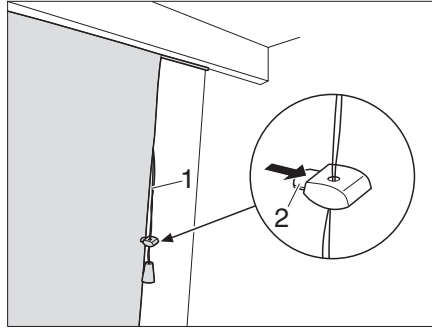

Fig. 84 Gathered blind
- Pull down the cord (Fig. 84,1). The cords pull up and gather the blind.
- Press the clamp (Fig. 84,2) on the holder and slide the holder into the required position.
- Press the clamp (Fig. 84,2) on the holder.